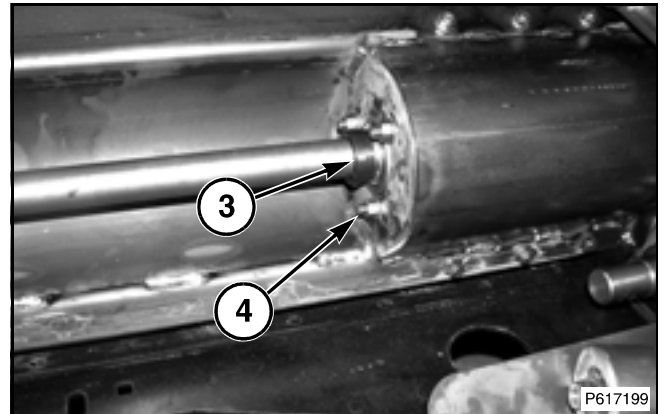

FIG. 5
FIG. 5: Loosen the setscrew in the locking collar (3). Insert a drift punch in the pin hole to rotate and loosen the locking collar. Rotate the locking collar opposite the direction of normal shaft rotation.